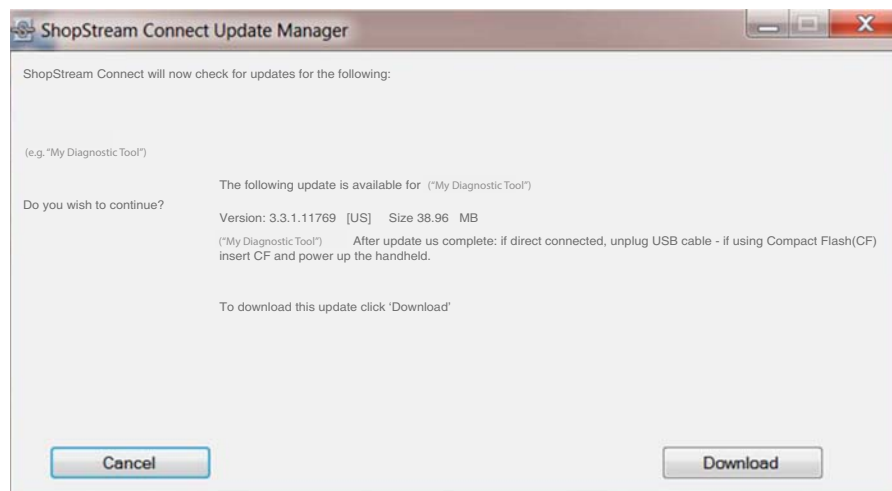

Figure 9-5
2. If service release updates are available, select **Next** to continue, then select **Download** and follow the on-screen instructions to complete the installation (Figure 9-5).